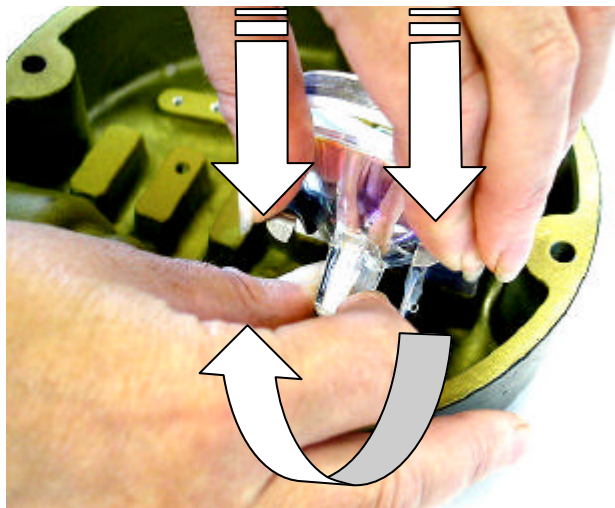

Fig. 9. Remove the lamp from the lamp holder.
- Push the lamp retaining spring fingers back from the lampholder using two fingers of one hand. With the other hand pull the lamp back until the reflector rim is clear of the lampholder enabling the lamp to be lifted clear of the spring/lampholder assembly. (See **Fig. 9**).